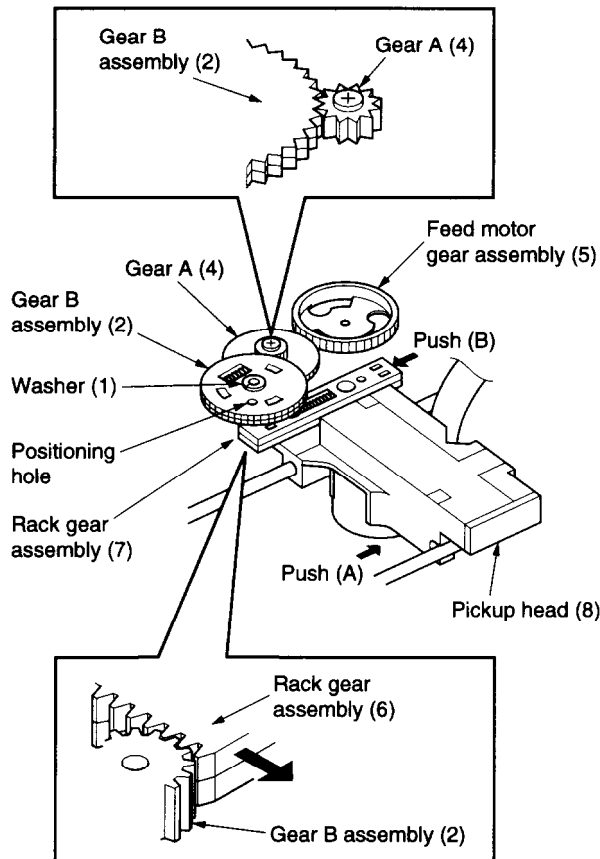

Fig. 15
5. Remove two screws (6), and remove the rack gear assembly (7). (Refer to Fig. 15.)